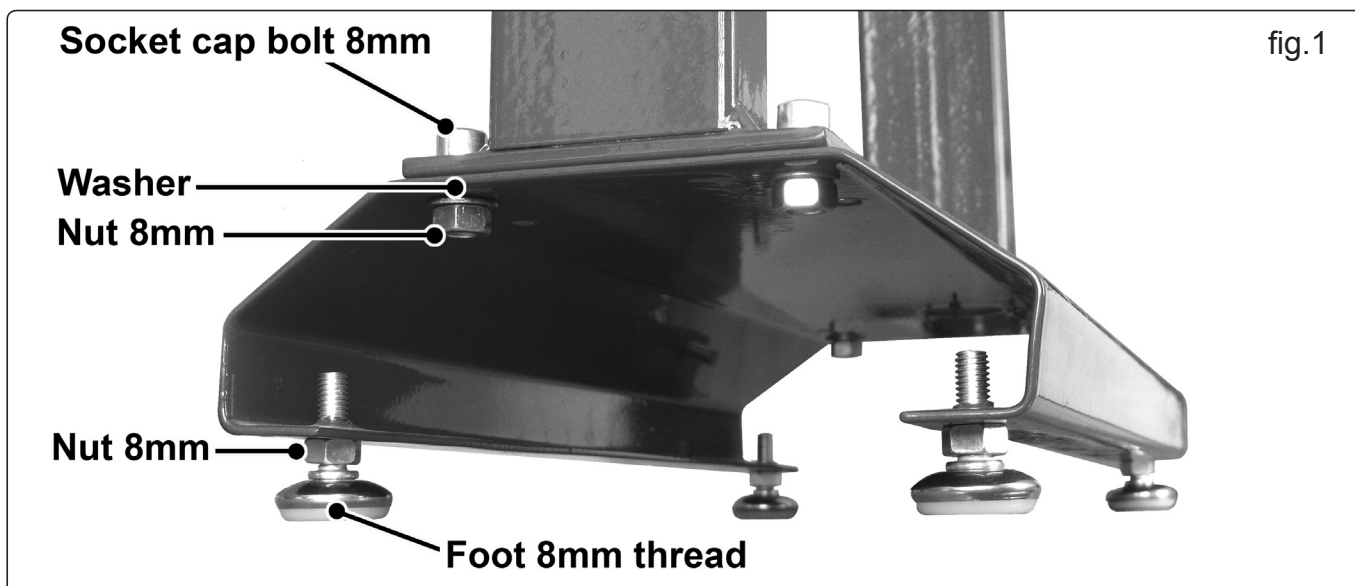

fig.1
- 3.1.1 Place the uprights onto the base (with the bearings facing inwards) and position them over the inner or outer pre-drilled holes depending on your requirements. Secure to the base as shown in fig.1 below using two 8mm socket cap bolts, two washers and two 8mm nuts. You will require a 13mm spanner to hold the nuts steady and a 6mm hex key to tighten the bolts.
- 3.1.4 Screw the 4 feet into the base of the balancer, as shown in fig.1. Adjust the feet until the bubble indicator shows that the base is level.